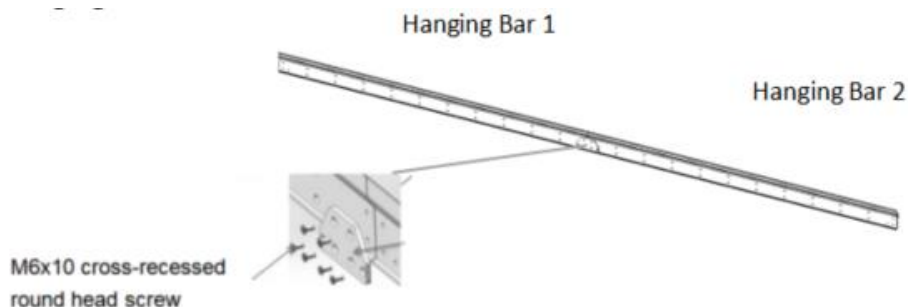

Figure 5
2. Connect Upper Hanging Bar 1 to Upper Hanging Bar 2 using Connector (see Figure 5). Fit Hanging Bar 1 end to end with Hanging Bar 2 and use 6 M5x16 countersunk screws to preassemble the Hanging Bar. Do this for the Upper Hanging Bar and the Lower Hanging Bar